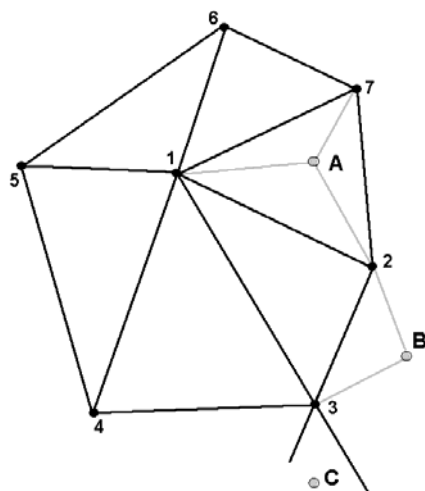

Fig. 1.5.38-2.
- A the point lies inside one of triangles (an example is the A point in Fig. 1.5.38-2);